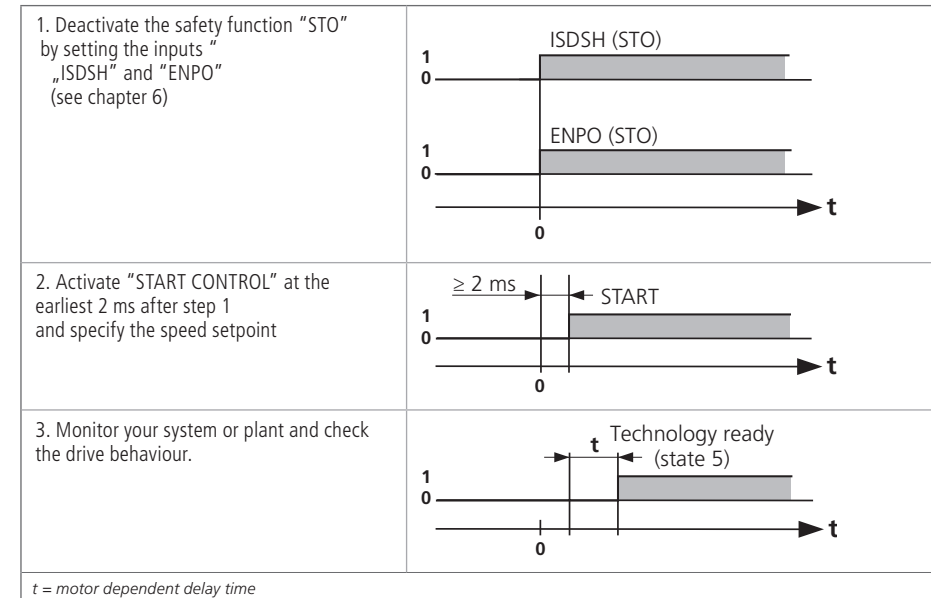

Fig. 4.1 Switching on sequence
- For step 1 in table 1.1 Fig. 4.1 at least the two inputs "ISDSH" and "ENPO" for terminal X4 must be interconnected.
- For step 2 in table Fig. 4.1 best via the "Manual operation" dialog of Moog DRIVEADMINISTRATOR 5, details can be found in the help system.